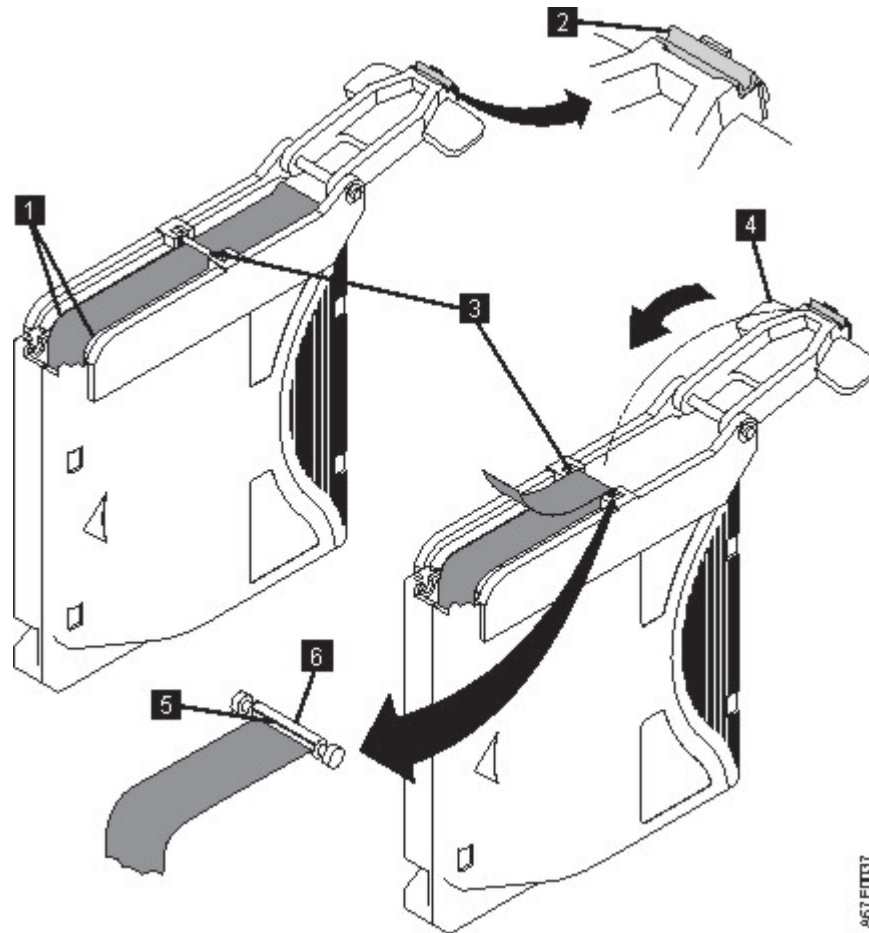

Figure 109. Attaching the leader pin to the tape
7. Position the tape in the alignment groove of the leader pin attach tool (see 1 in Figure 109 on page 234).
8. Place a new C-clip into the retention groove (2 (Figure 109 on page 234) on the leader pin attachment tool and make sure that the clip's open side faces up.
9. Place the leader pin (from step "6" on page 233) into the cavity (3 (Figure 109 on page 234) of the leader pin attach tool.
10. Fold the tape over the leader pin and hold it with your fingers (see Figure 109 on page 234).